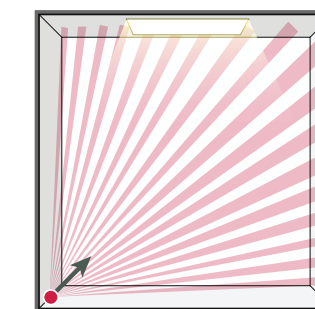

Figure 2b. Avoid sensor facing large windows.
1. Larger (street-facing) windows (Figure 2b)